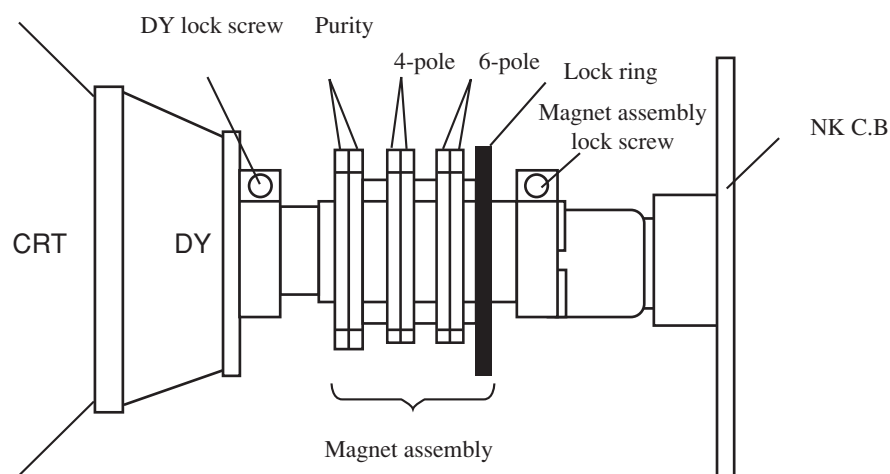

Fig 1-4
(4) The composition of each magnet is as shown in Fig. 1-4.
Be careful not to loose the lock ring too much. If the magnet assembly has become shifted during adjustments, secure it to the position in Fig. 1-4.